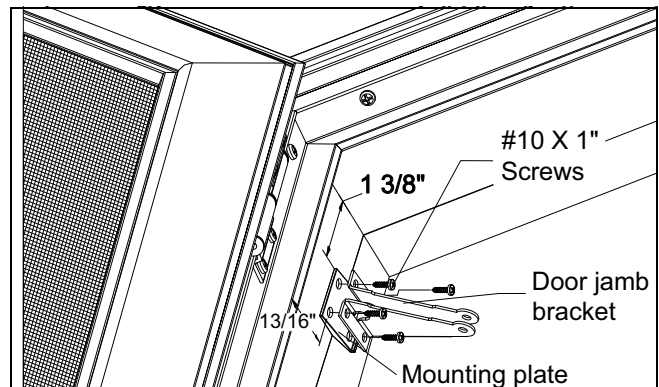

Figure 11
- For 4 9/16" Jamb Depth:** Measure and mark 1 3/8" (35) from head jamb on the primary hinge side jamb. Align the top of the mounting plate with the mark, and seat mounting plate in the 15° recess. Mounting plate lip should be on the interior of the door. Using the mounting plate as a template, mark screw holes and pre-drill with 7/64" drill bit. See figure 11.